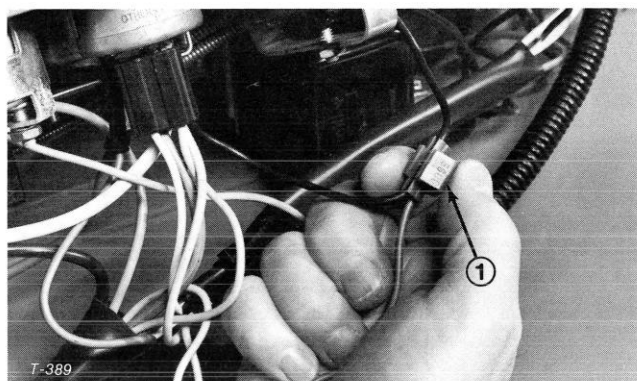

Figure 37
7. Snap tab over top of connector (Fig. 37).